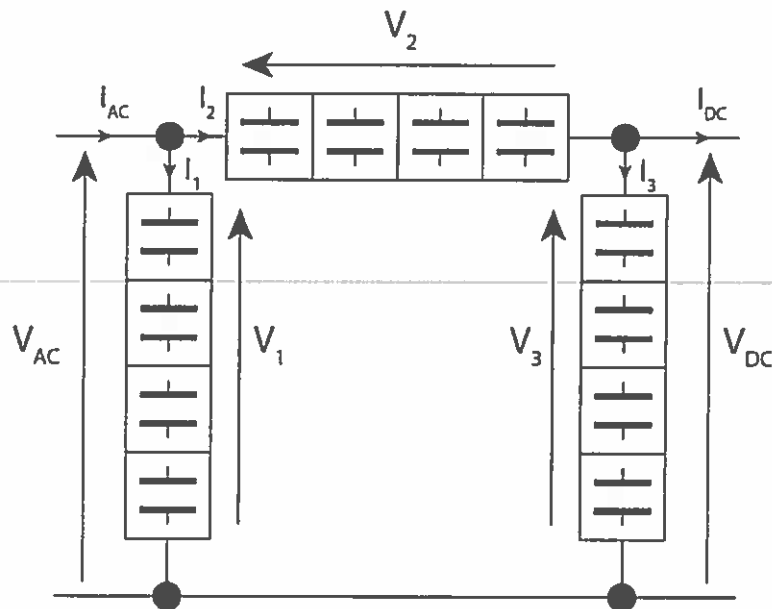

Figure 6.2: AAC as STATCOM
- b) Consider the rudimentary converter made of 3 stacks as illustrated in Figure 6.2. The AC and DC quantities can be expressed by following equations: